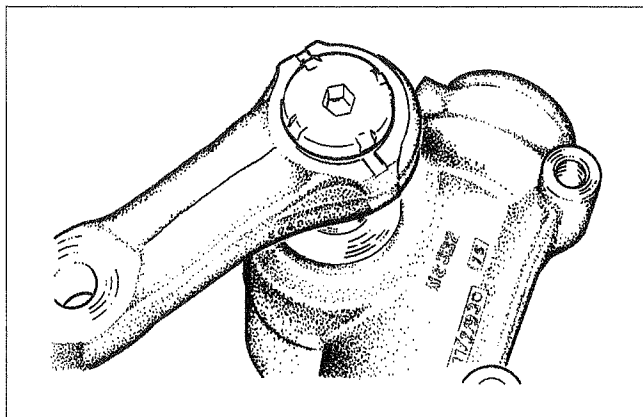

Figure 11
4. Screw the retainer into the sector shaft, aligning the tabs of the retainer with the notches of the Pitman arm (Figure 11).